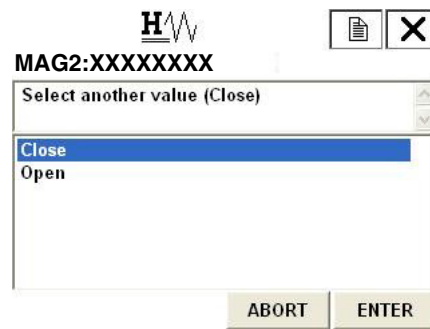

Figure 147.
- Figure 147 appears. Move the arrow key up or down to select an OPEN or CLOSE. After making a selection, press F4 (ENTER). Selected contact is output. Press F3 (ABORT) to return to the previous menu.